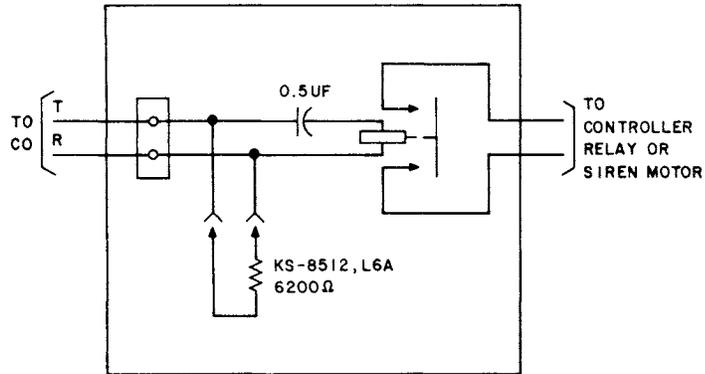

Fig. 3—Modification of KS-16626,L13 Power Relay Set
4.01 The KS-16626,L13 power relay set connects to a line shown in Fig. 3.
4.03 At stations where the line is to be placed under continuous test, connect a KS-8512,L6A resistor across the line (Fig. 3). Insulate exposed leads of the resistor with tape or tubular insulation.